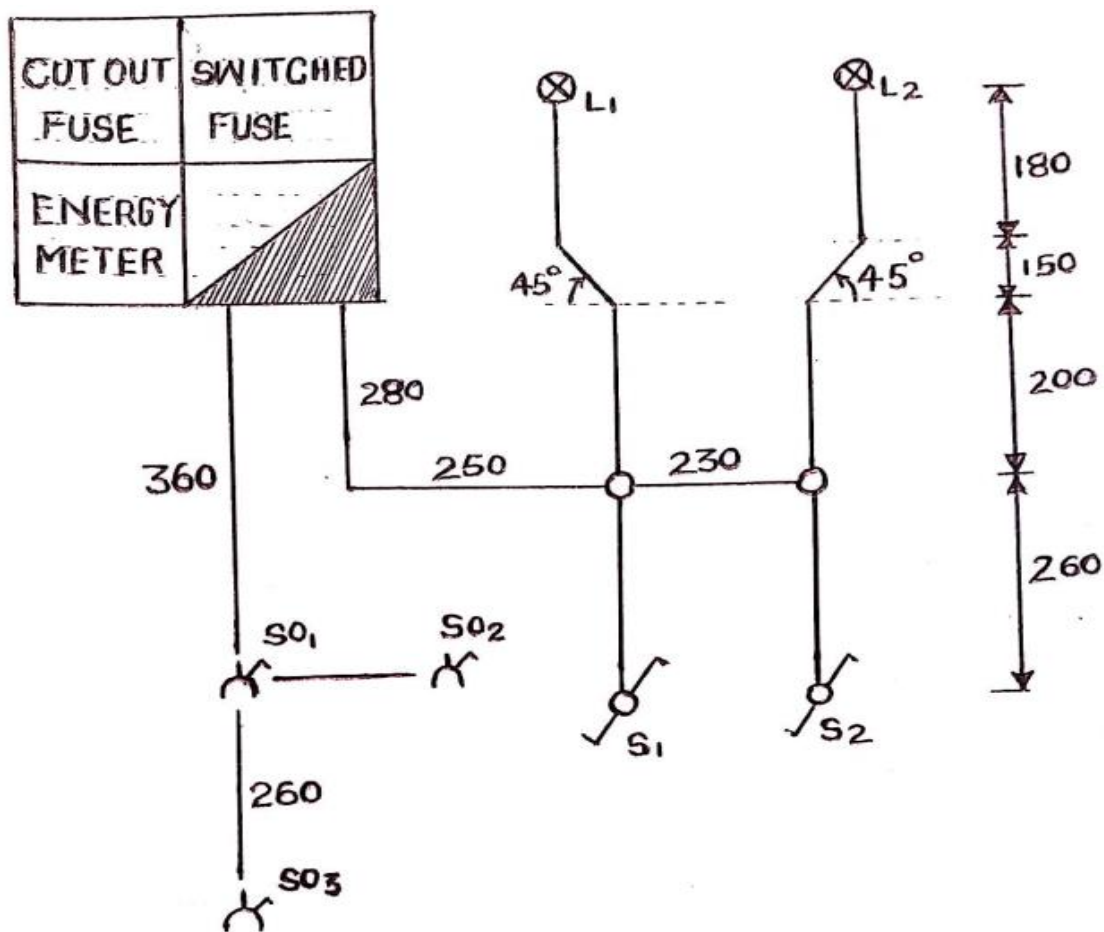

Figure 1
1. Prepare PVC conduit work pieces for the installation of Figure 1
2. Mount PVC conduit work pieces for the installation of Figure 1
1. Figure 1 shows a layout diagram of final sub-circuits. Draw a wiring diagram such that:
2. Using PVC conduit wiring system, install the circuit in Figure 1